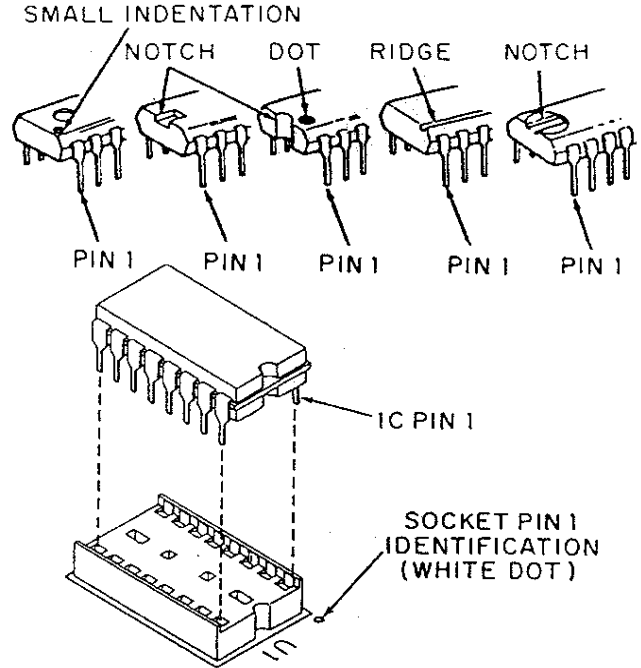
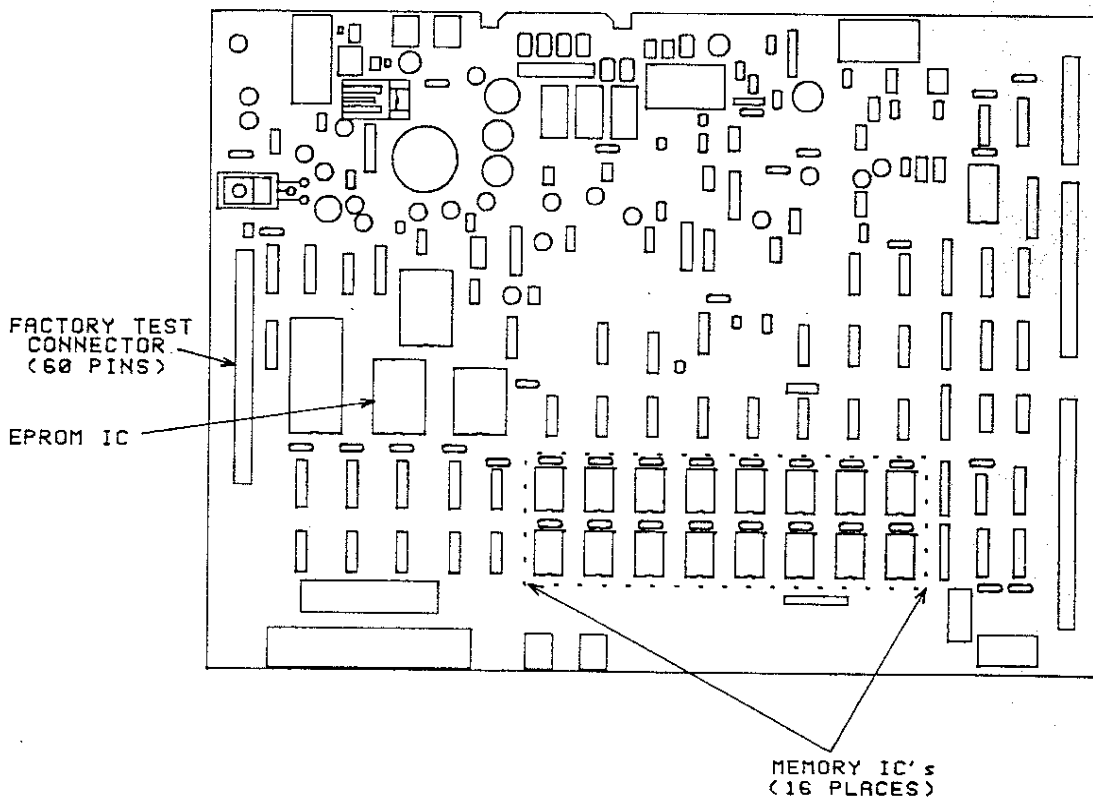

Fig. 5 - IC Orientation
Fig. 6 - Control Processor IC Sockets
4.10 Figure 5 shows common IC pin identification and proper orientation in the sockets. Figure 6 shows the location of the firmware and memory IC sockets.